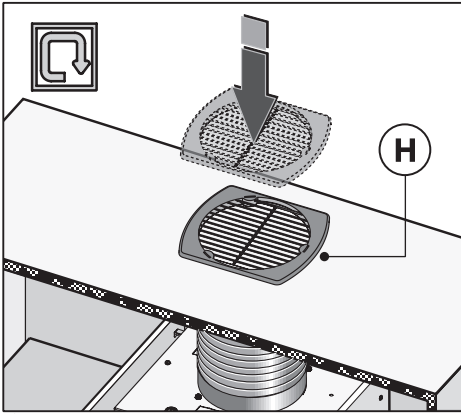

Fig.5
- In the event of mounting the filtering version device, fit the outlet of the hose with a protective grille **H** (not supplied) as shown in Fig.5.